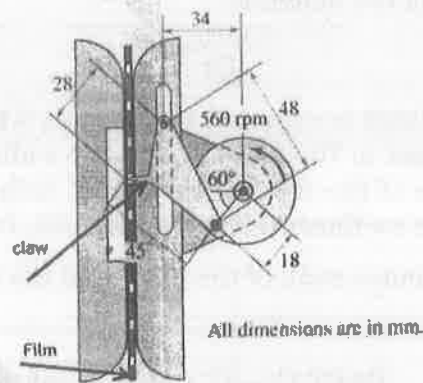

Figure 9
- (b) The mechanism shown in Figure 9 is used to pull movie film through a projector. The mechanism is driven by the drive wheel rotating at a constant speed of 560 rpm. At the instant shown, graphically determine the linear velocity of the point of the claw which engages the film and angular velocity of the claw.